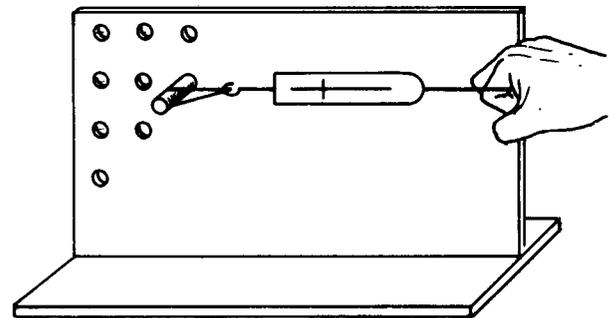

Figure 6-5
4. Set up the pegboard platform. Insert a support rod as shown in Figure 6-5. Hook one end of the rubber band to the support rod and the other end to the spring scale (Fig. 6-5).